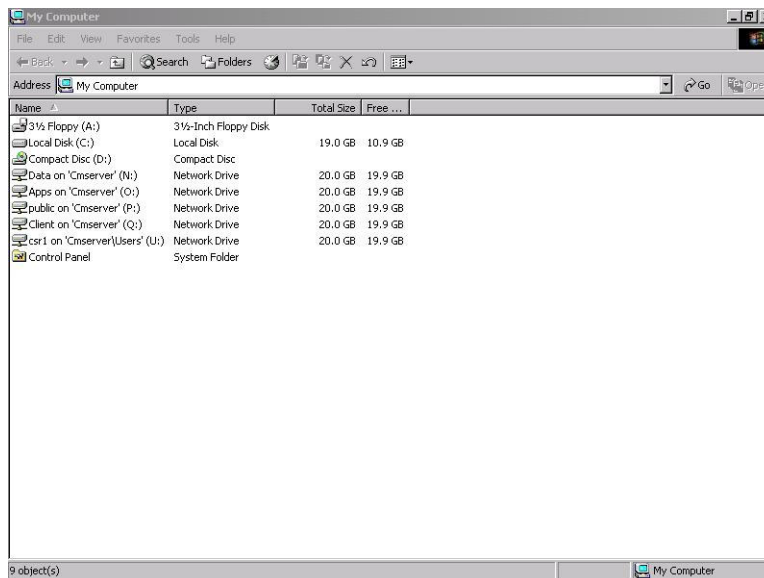

Figure 6.1.1.2.4: My Computer
2. Click once and select CD Drive (D:) so that it is highlighted (see Figure 6.1.1.2.3).